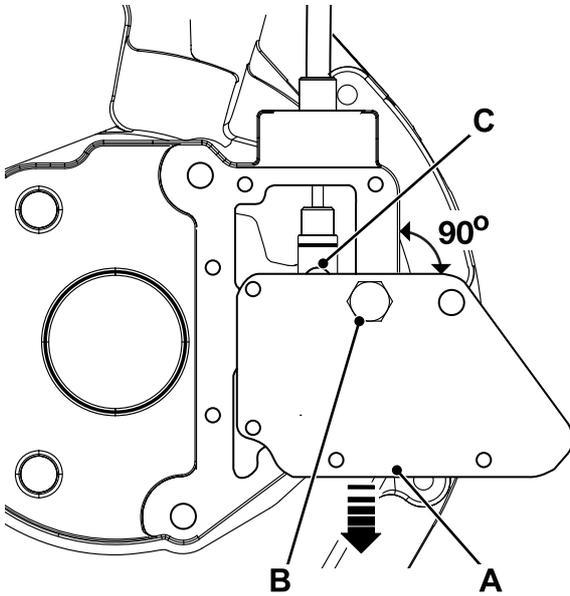

Fig 31.
- 5 Use the cover plate **31A** as a wear indicator. Use a bolt **31B** to fit the plate at right angles to the housing as shown ⇒ Fig 31. (□ G-50). Pull the plate down when tightening the bolt to take up the clearance in the bolt hole.